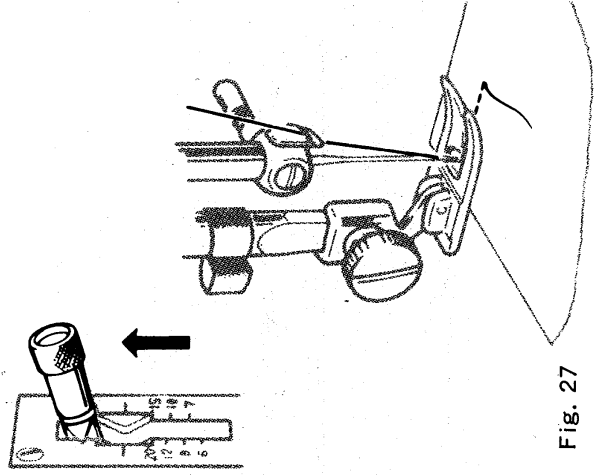

Fig. 27
5. Raise stitch length regulator to reverse. Fig. 27.